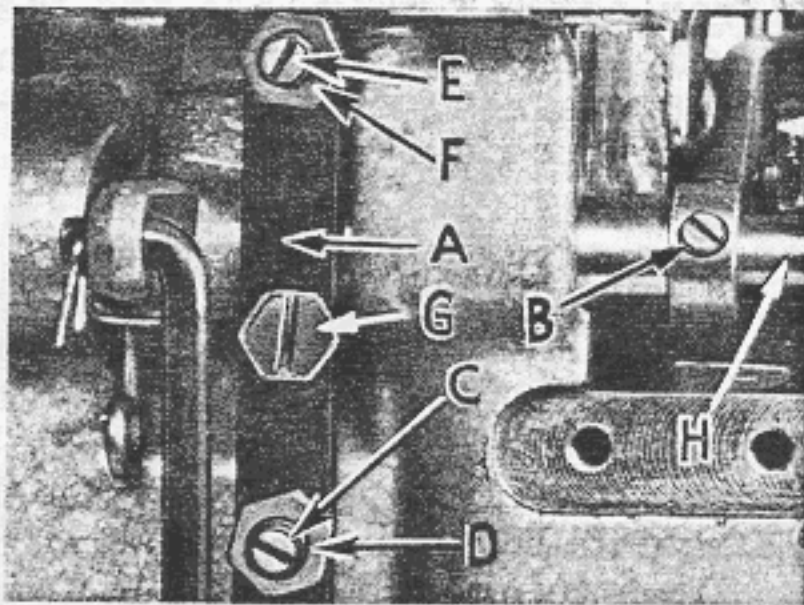

Fig. 14
shifting the foot lifter lever shaft (H, Fig. 14). To move the shaft, loosen collar screws (B, Fig. 14) and clamp screw (G) and then shift the foot lifter lever shaft to the left or right as required. Retighten collar screws and clamp screw.
The foot lifter lever arm (A, Fig. 14) and the collar (B) secure the shaft. Be sure the presser arm does not bind and rise when presser foot release bushing is unlocked.